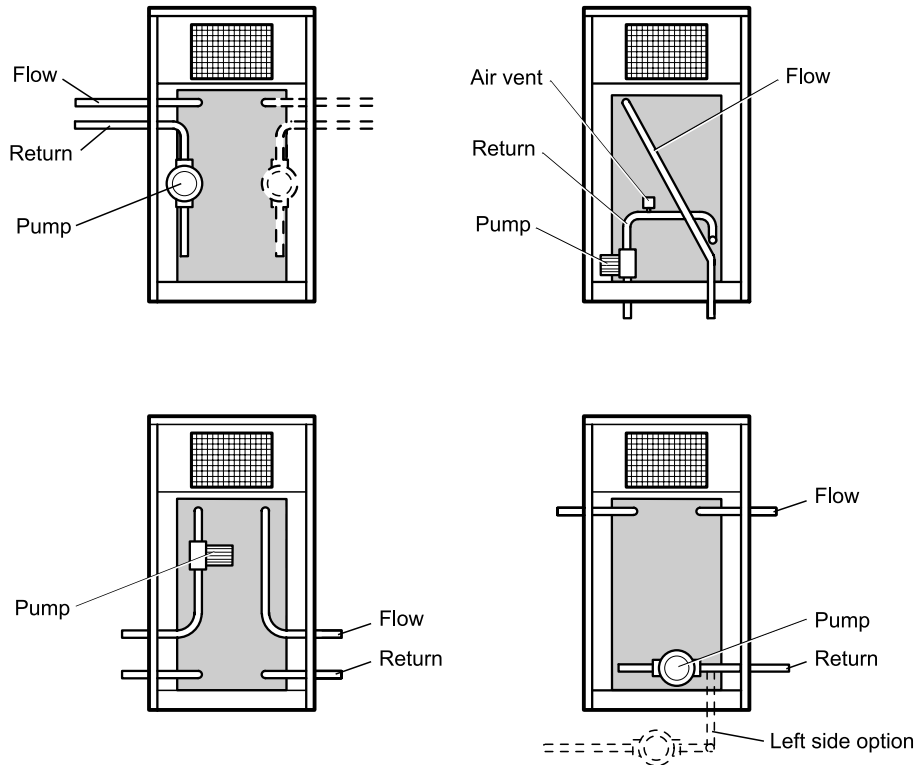
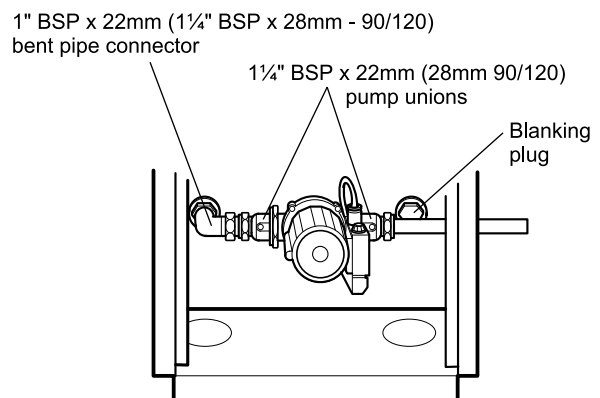

Fig. 14a - 110/140 Water connections
Fig. 15a - Rear of boiler
- 7 Connect the pump to one of the bottom tappings (as required) on the back of the boiler using the two pump unions and the other bent pipe connector supplied. Seal the other return tapping with the blanking plug supplied with the boiler. See Fig. 15a.
See Figs 15a, 15b, and 15c
- 9 If required, fit the circulating pump to one of the four tapplings on the back of the boiler (see Fig. 14a). Two 1/4" x 28 mm pump unions, two 1" BSP bushes and two 1" BSP x 28 mm elbows are supplied. Seal any unused tapplings with the 1/4" BSP plugs supplied (see Fig. 15a).